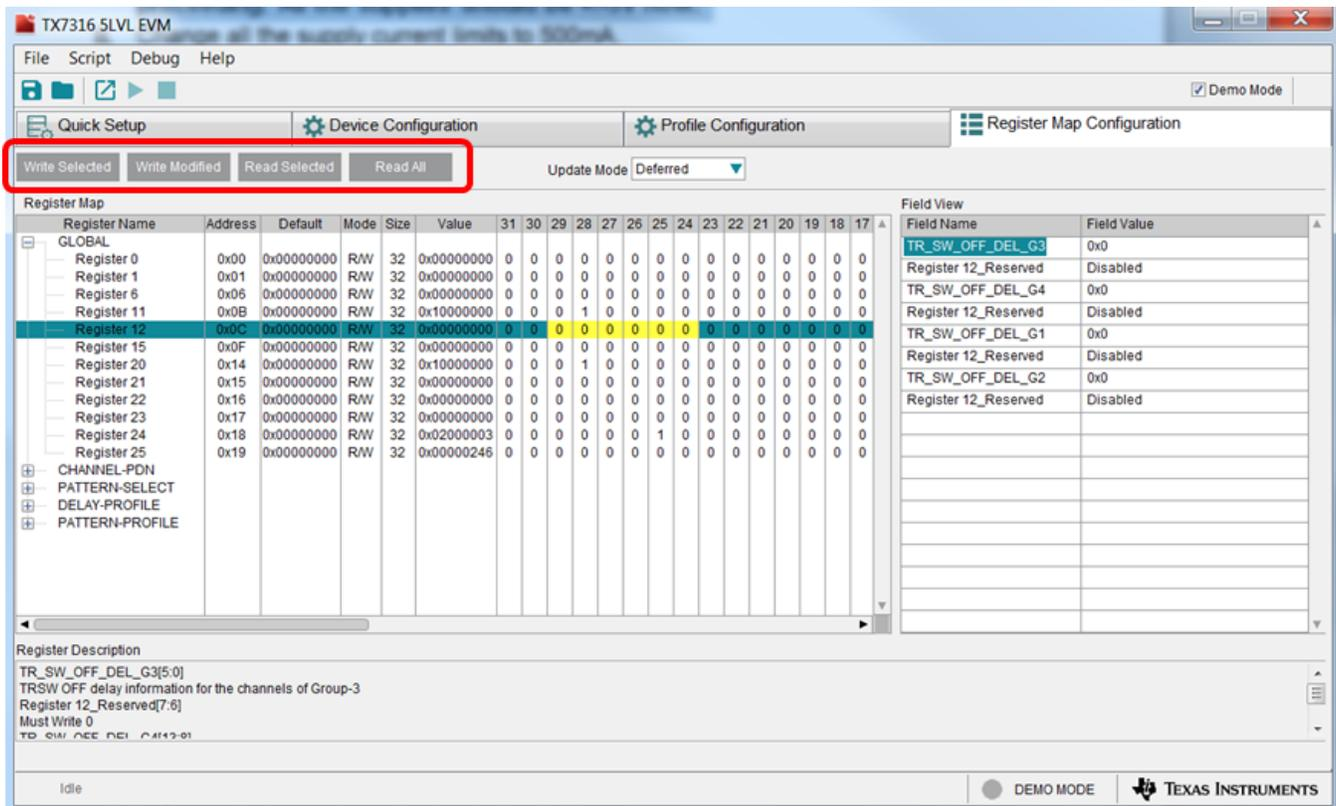

Figure 38. Register Map Configuration – Update Mode (Deferred)
- a. Read Selected: Use this option to read from a selected register. In order to select a particular register, click on any register under *Register Name* and then use *Read Selected* button to read from the selected register. The *Address* field displays the address of the selected register, and the *Value* field displays the value contained in that register as shown in Figure 38